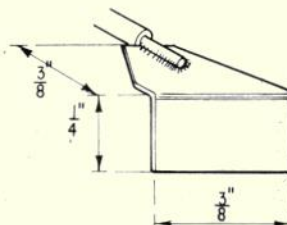

FIG 7 Voltage selector
We have made our resistance, now to make it variable. A piece of thin sheet brass or thickish tinfoil is made up as shown in fig. 7. A 6 in. length of flexible wire (not too light please) is soldered to its top. The vertical  $\frac{1}{4}$  in. deep part is pushed into the coil at various places, until the correct resistance is found which just makes the filament glow the correct brightness. This should make the voltmeter read 1.5 volts. Spaces between coils should only just allow item 7 to be pushed in with a little friction.